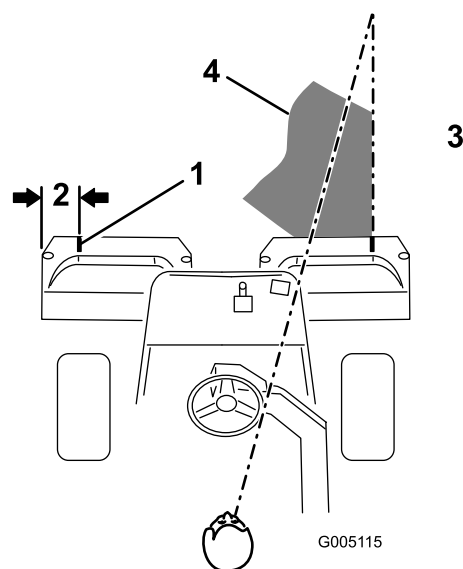
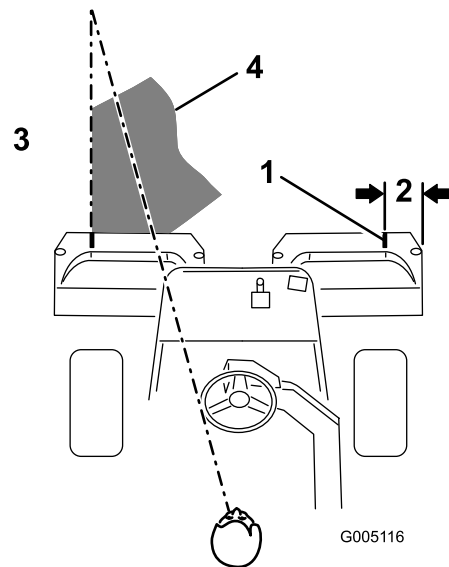

Figure 29
Figure 30
2. Either place a strip of white tape or paint a line onto each basket paralleling the outer edge of each basket (Figure 29).
3. Overlap a minimal amount with the previous cut on return passes. To assist in maintaining a straight line across the green and keep the machine an equal distance from the edge of the previous cut, establish an imaginary sight line approximately 1.8 to 3 m (6 to 10 ft) ahead of the machine to the edge of the uncut portion of the green (Figure 29 and Figure 30). Some find it useful to include the outer edge of the steering wheel as part of the sight line; i.e. keep the steering wheel edge aligned with a point that is always kept the same distance away from the front of the machine (Figure 29 and Figure 30).